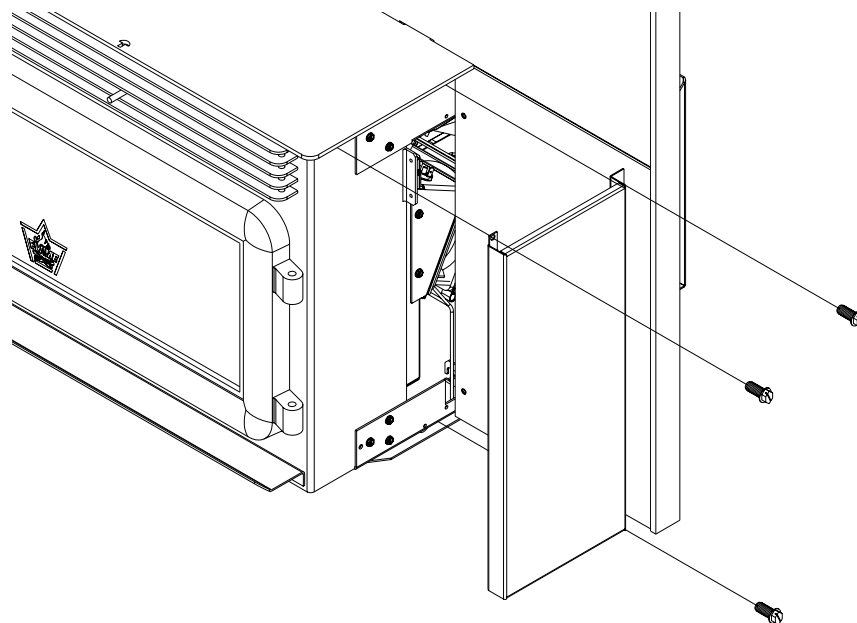

Figure 32
- 8- Install the decorative side panels on the unit (Figure 32)